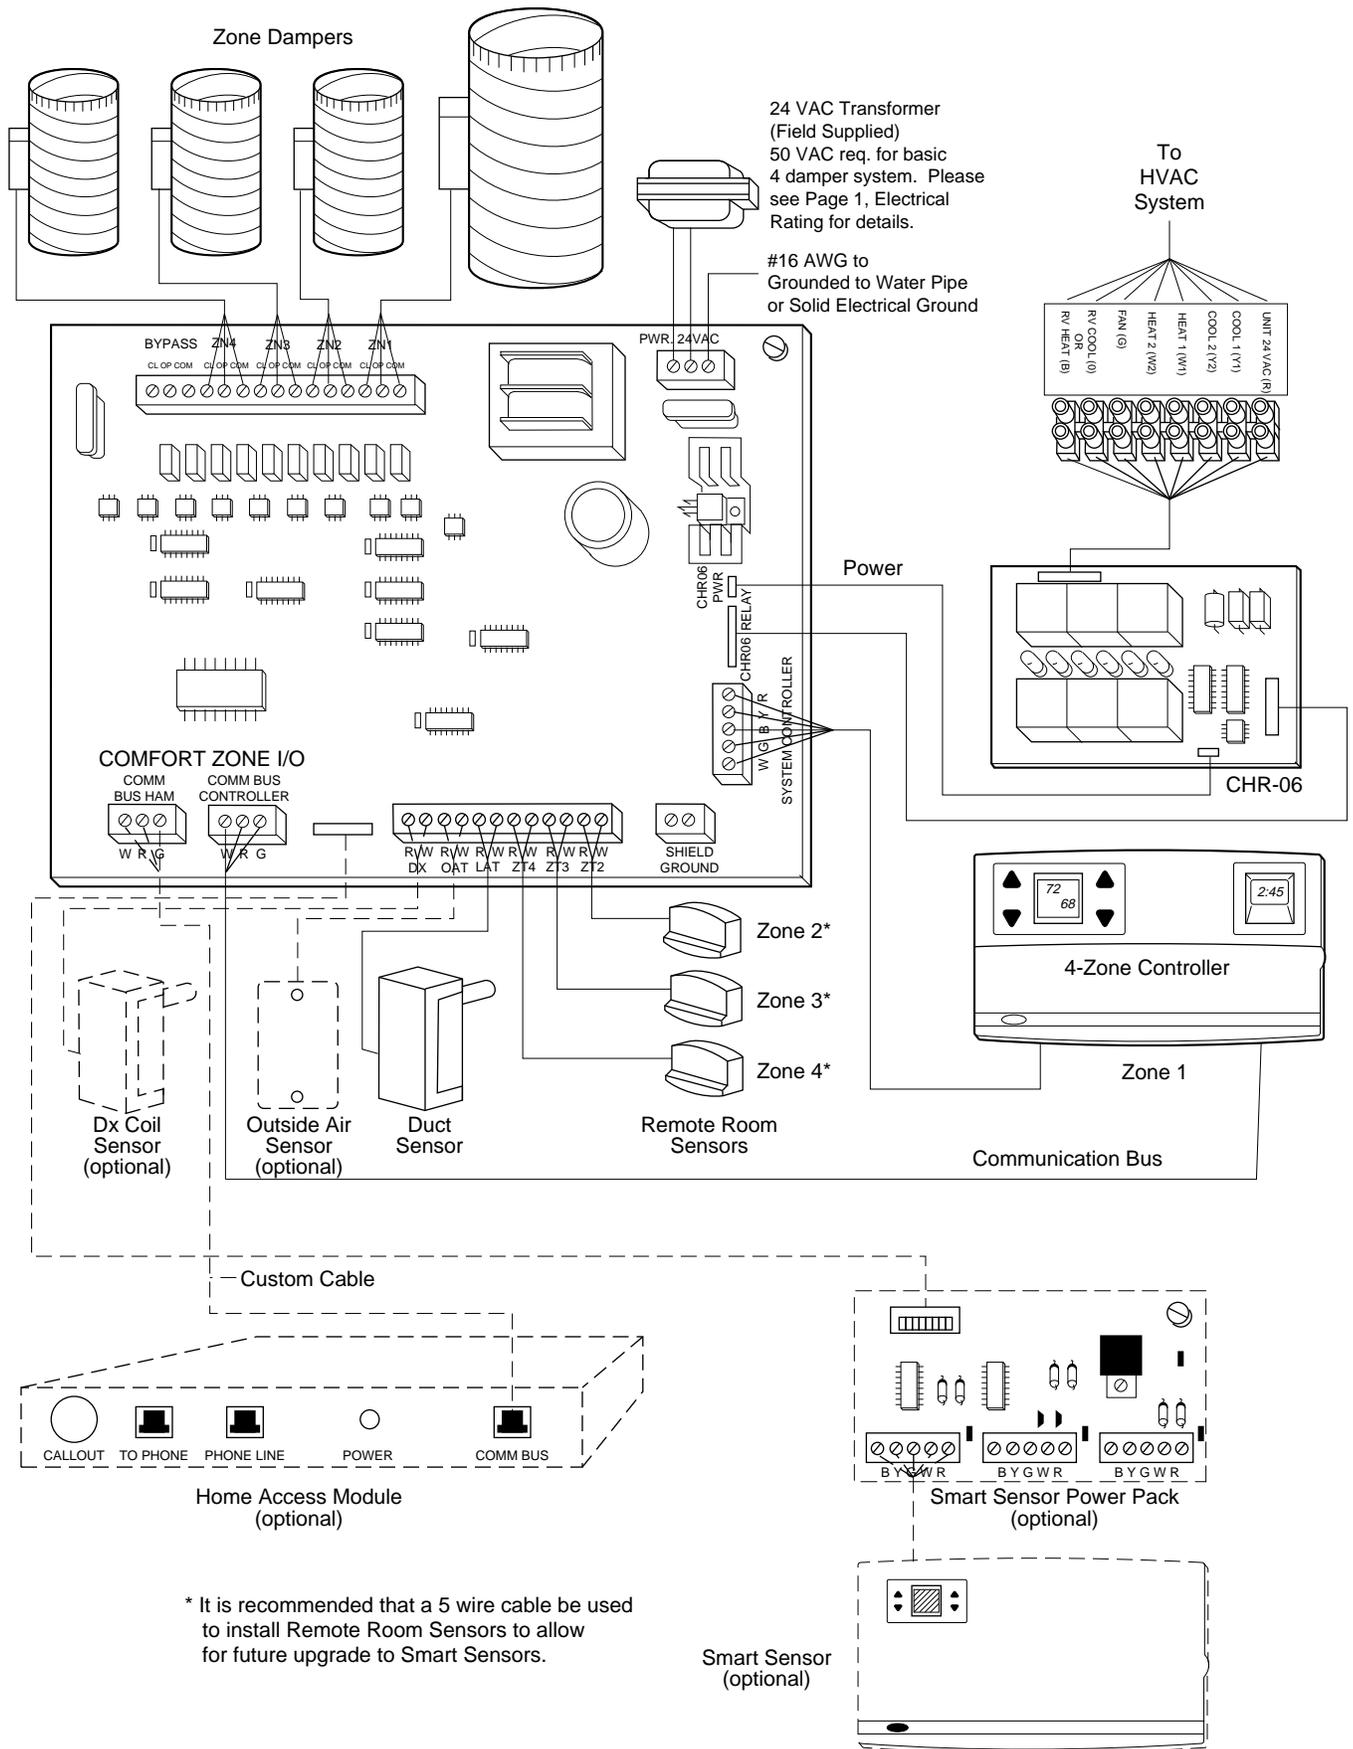

Fig. 16—Comfort Zone System Wiring Diagram
6. Connect sensor to 2-wire conductor using wire nuts provided. (See Fig. 16 for connection to Comfort Zone Center.)
The Dx coil temperature sensor is recommended for use in heat pump with fan coil applications only. The sensor should be installed between the Dx coil and the electric heaters. It measures the Dx coil temperature and adds extra protection for high/low temperature limits. The range is from 30°F to 180°F. The Dx coil sensor interfaces to the Comfort Zone Center on terminal TB-1. (See Fig. 16.) To activate the Dx coil temperature sensor. Turn T-27 on.
5. Connect the 3 wires for communications bus and the 5 wires for controller to base plate terminal screws. (See Fig. 16.) Ensure that there are no excess or bare wires exposed.